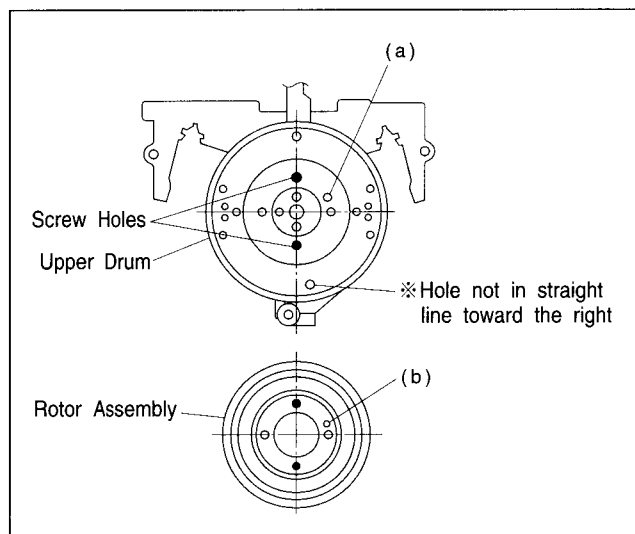

Fig. 1-5-24
- (3) Align the upper drum assembly and rotor assembly phase as indicated in Fig.1-5-24.